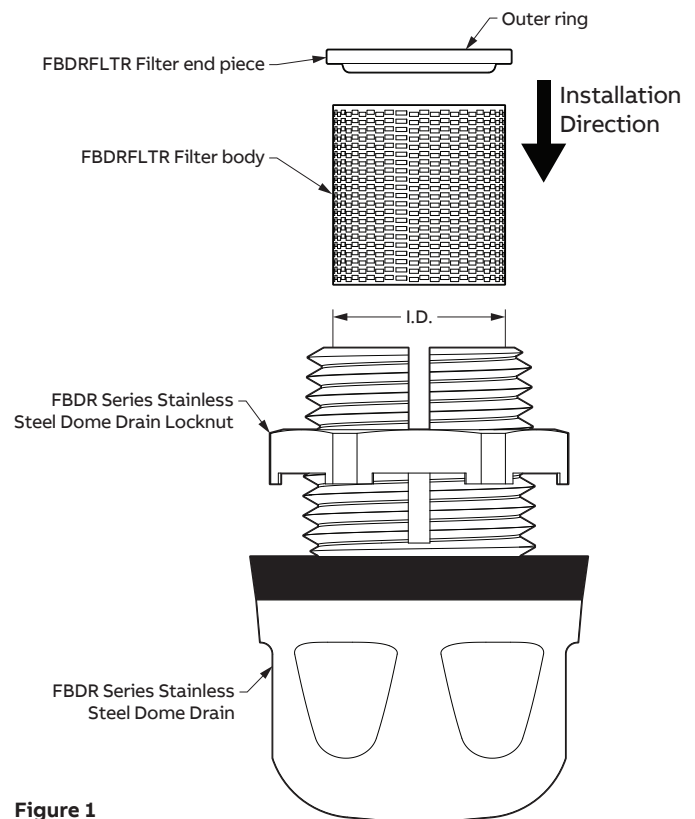

Figure 1
1. Install the FBDRFLTR filter body by inserting either of the open ends into the I.D. of the FBDR series dome drain as shown in Figure 1. Filter body is bi-directional.
2. Install the FBDRFLTR filter end piece into open end of the FBDR series dome drain, with the smaller diameter feature towards the drain as shown in Figure 1. Firmly press the FBDRFLTR filter end piece into the FBDRFLTR filter body. Pressure may be applied (with thumb) to the outer ring of the FBDRFLTR filter end piece but not to the filter element.